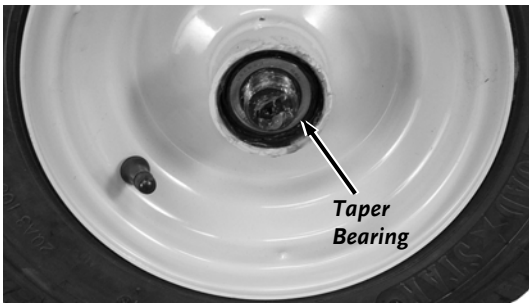

Figure 5
5. Place a Wheel onto the Axle with the Valve Stem facing out and the loose Tapered Bearing on the outside (**Figure 5**).